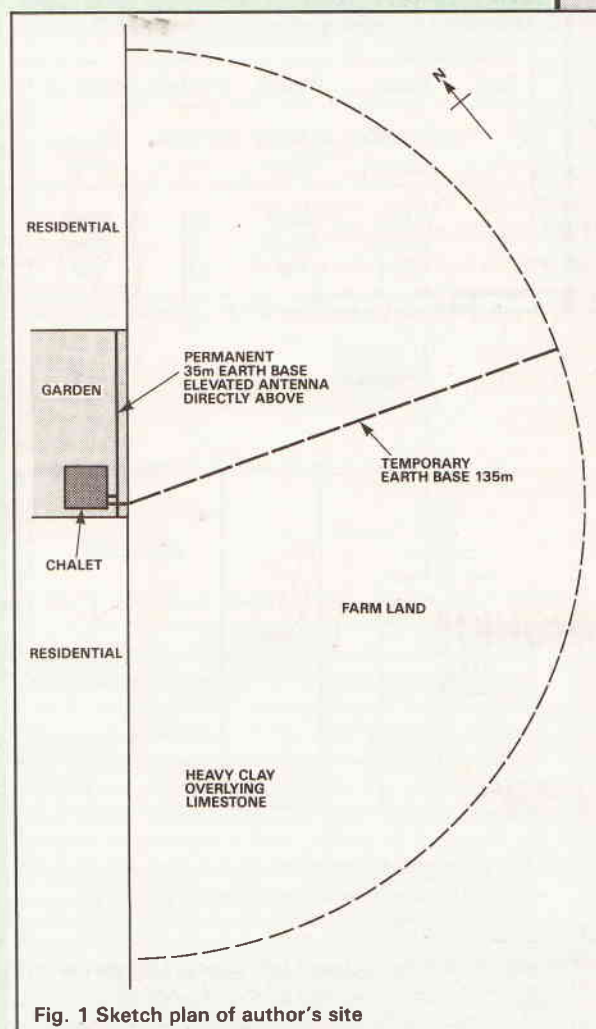

Fig. 1 Sketch plan of author's site
**F**or most observations, the author uses the permanent 35m base extending along the garden boundary, but when required, a temporary 135m base is extended into the adjoining farmland where it can be swung over an 180 degree arc. Coaxial cable is used to bring the leads from the earth bases into the garden chalet used as study/laboratory. Almost directly above the 35m earth base is an elevated antenna about 7.0m high and 35m long (Figure 1).